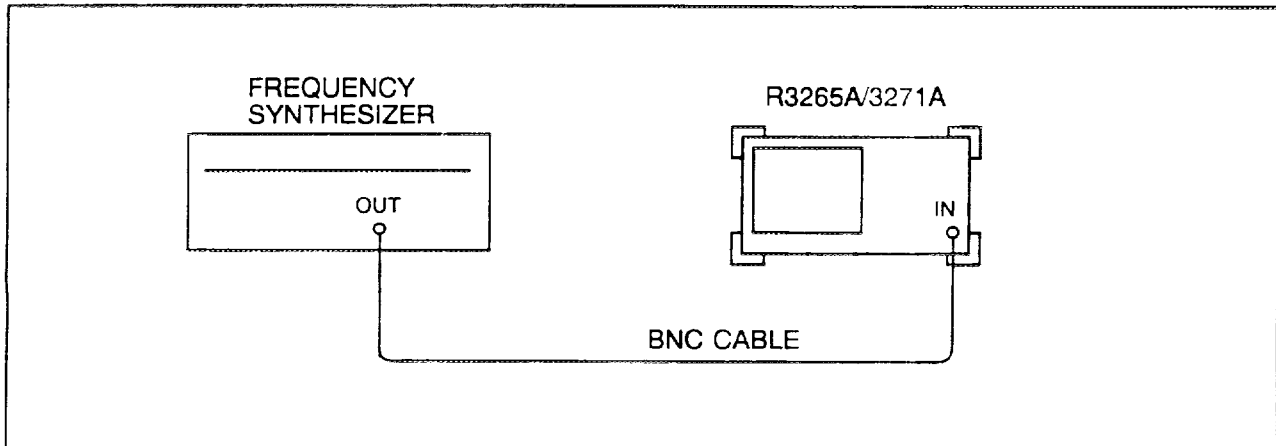

Figure 4-3 Residual FM Test Setup
- Connect the equipment as shown in Figure 4-3.